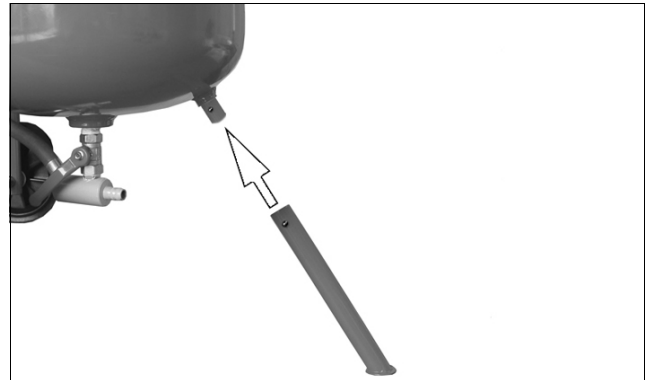

Fig 6
2. Align the holes of the front leg with the holes in the leg mounting on the front side of the tank, see Fig 6.